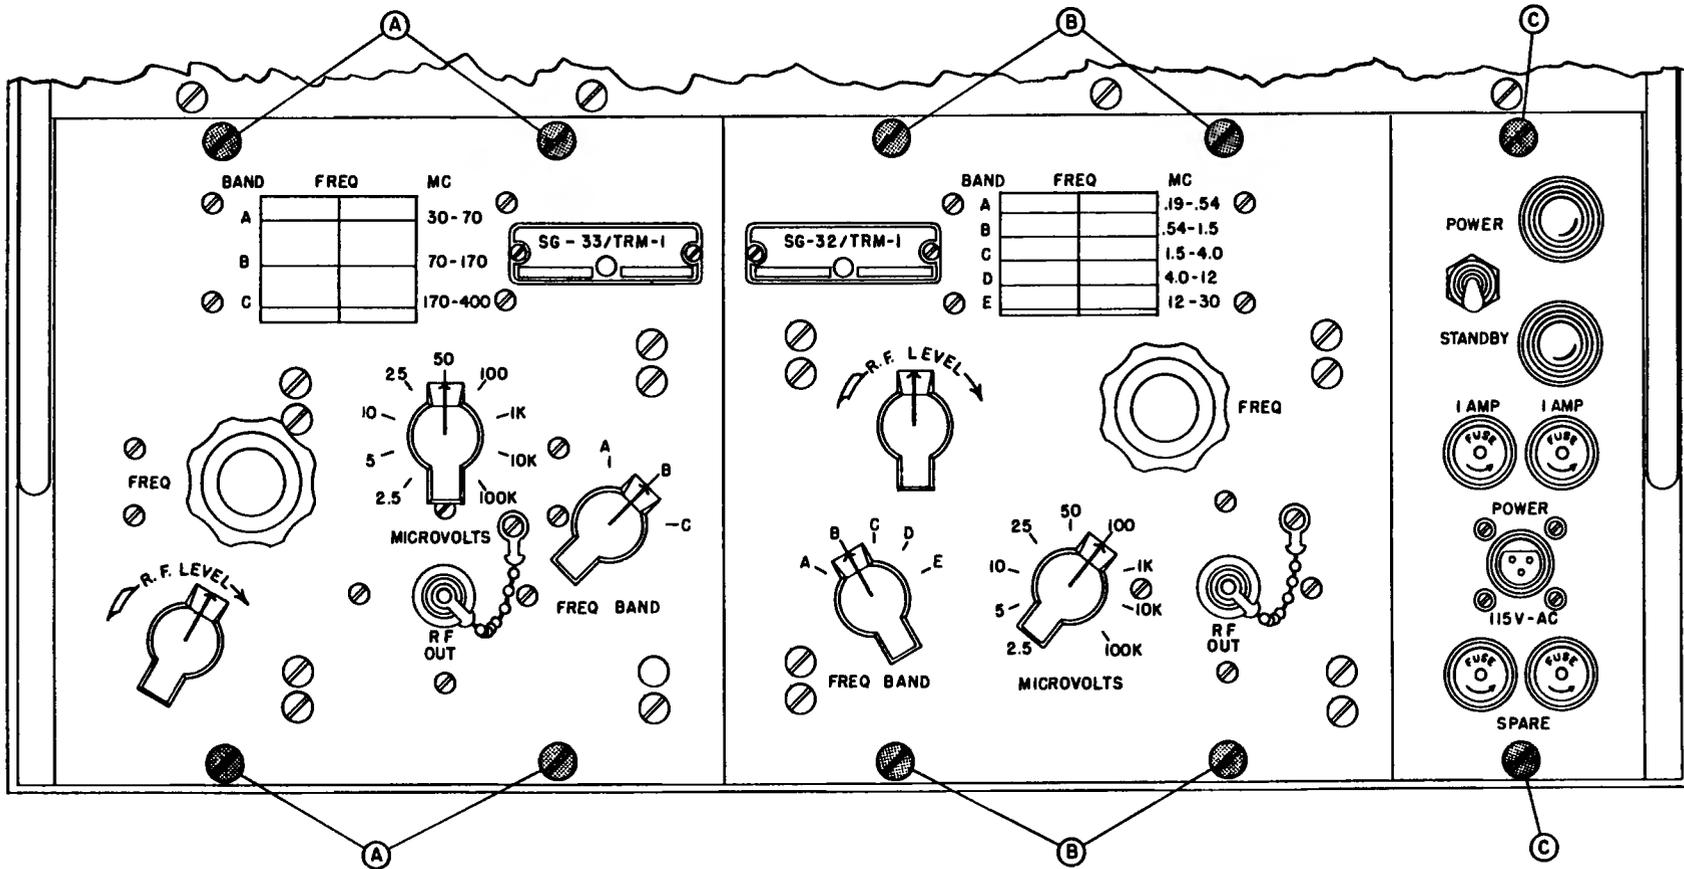

Figure 5-2. Removal of Signal Generators and Power Panel from the Equipment Case
5-9. REMOVING SIGNAL GENERATORS SG-32/TRM-1 AND SG-33/TRM-1 FROM THE EQUIPMENT (See figure 5-2)
- b. Remove both signal generators from the frame as described in paragraph 5-9. (See figure 5-2.)